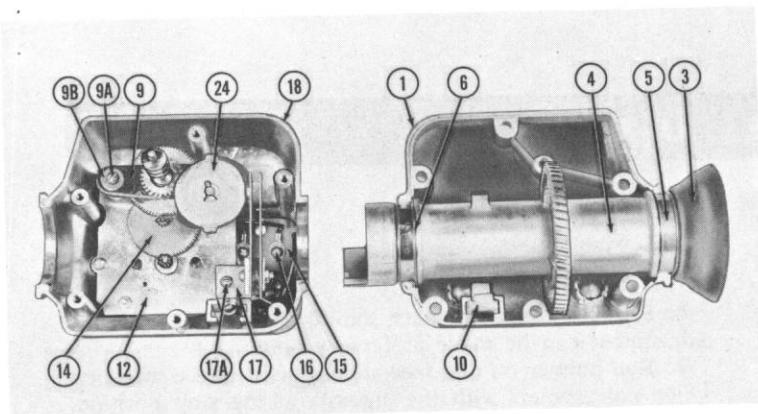

Fig. 14. Internal Components—Model U-83 Rotator Unit.
- Contact switch (Item #17) in the rotator unit must make contact only when cam lobe (Item #24) comes in contact with the switch. If shaft assembly (Item #4) is removed from rotator unit, cam lobes must be $\frac{1}{2}$ turn away from contact points in end-stop position on both directions. (See Figure 14.)